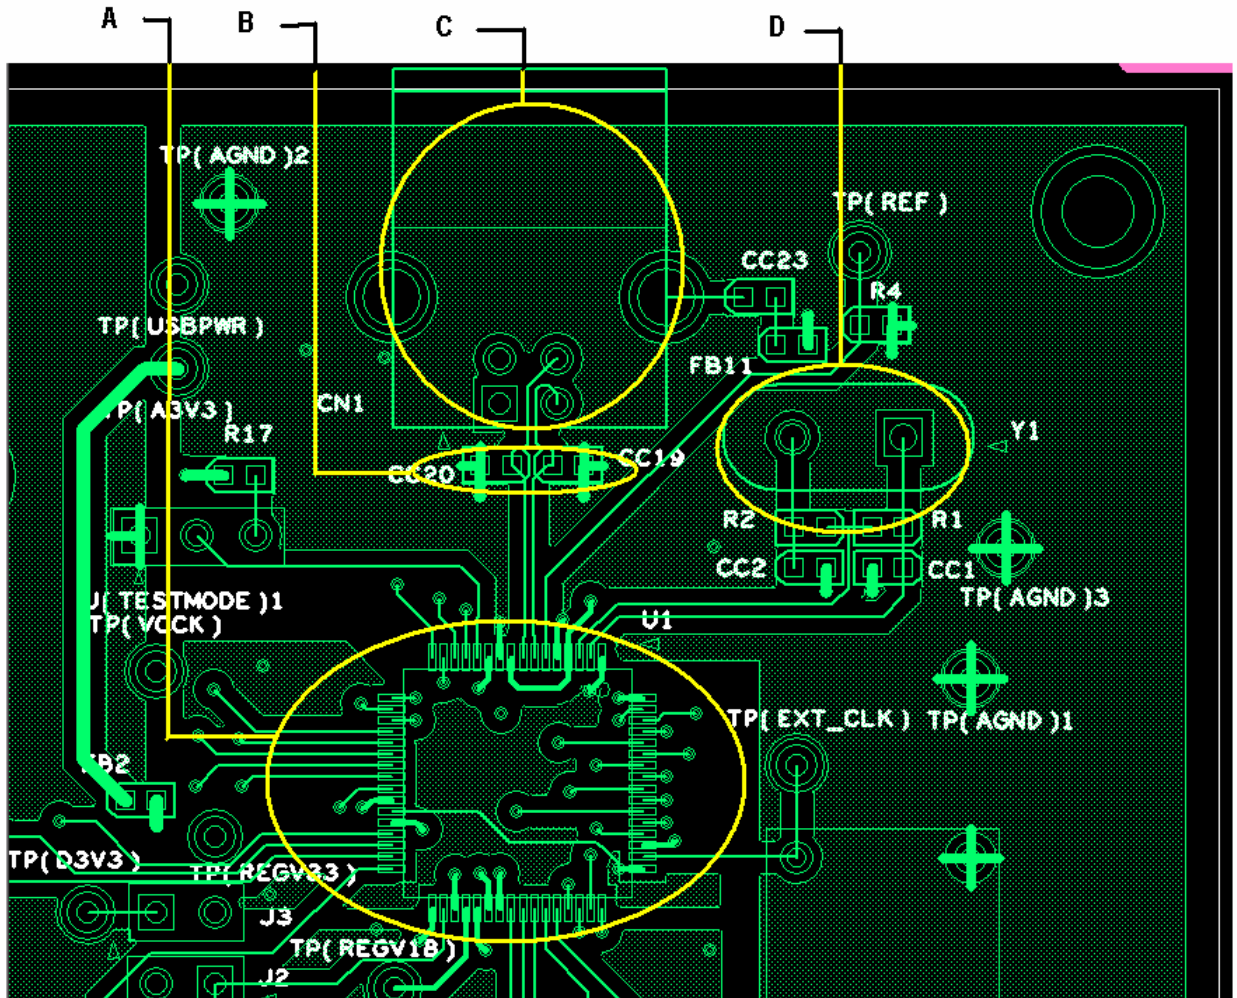

Figure 1b Top Side View (Component Placement)
1. Place the USB type-B connector and Slew-rate control capacitors CC19 & CC20 as close as to the connector on the board as shown in Figure 1b.